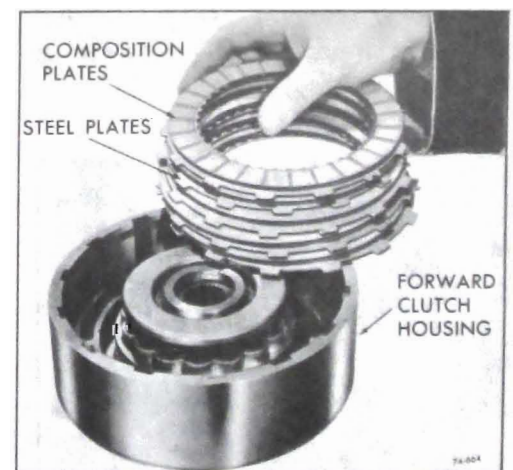

Figure 76-647
4. Remove five (5) radial groove composition and five (5) steel clutch plates. See Figure 76-647.